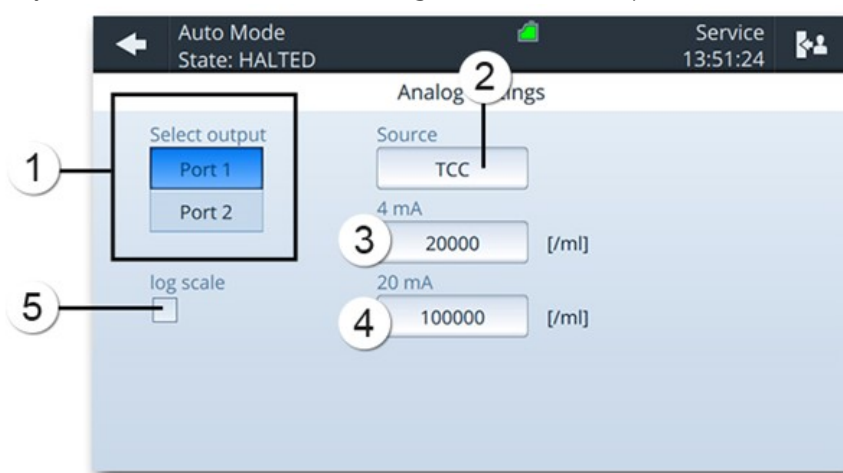

Figure 6-6 Analogue output settings
4.	Choose Port 1 or Port 2 (figure 6-6)
5.	Choose the source (figure 6-6, position 2).